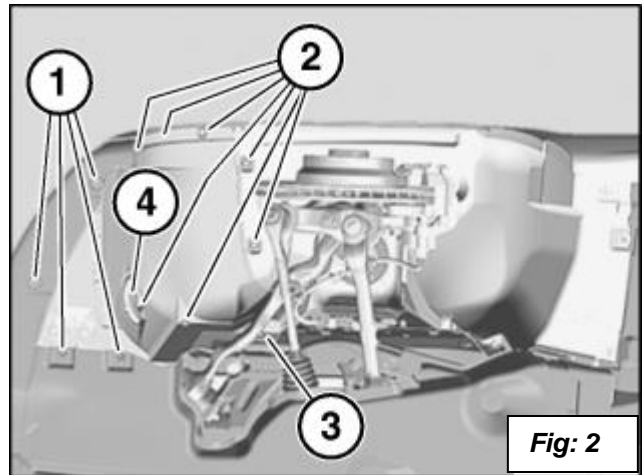

Fig: 2
4. Remove the front inner fender on the right side by removing the screws at location (1) and (2). Unscrew the nut at location (3). Remove the Air Guide (4). Disconnect the connector from the tire pressure box. See **figure 2**.